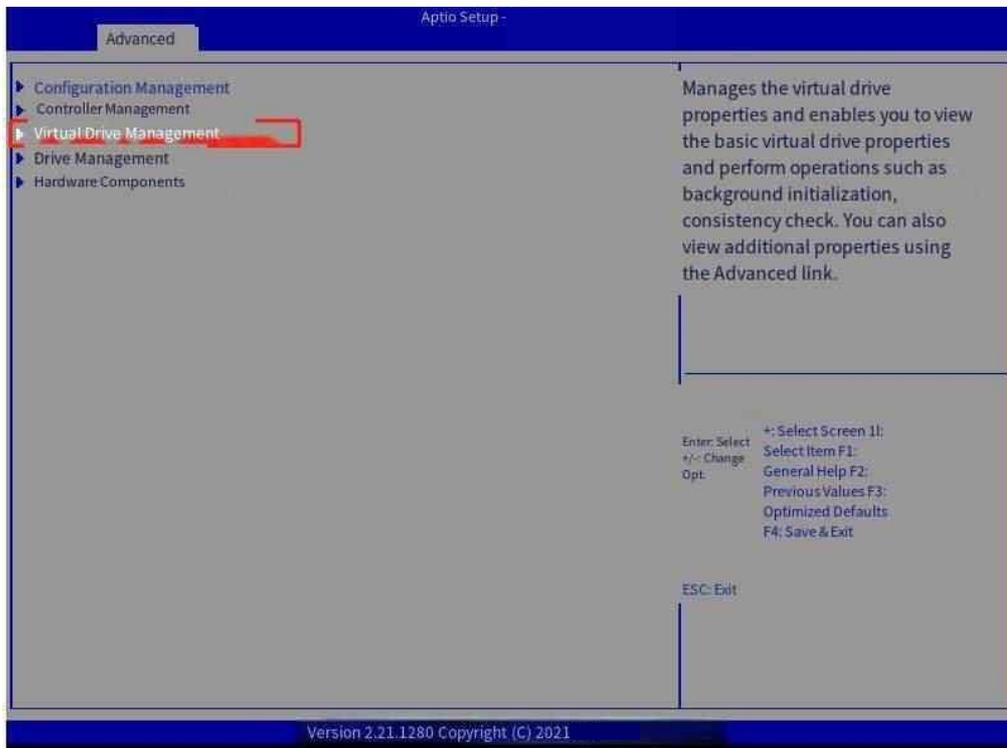

Figure 7-10 RAID home screen
Step 4: Press ESC to return to the upper screen, select Virtual Drive Management and press Enter (Figure 7-10);